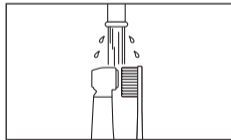

Fig. 12
- 1 Clean the external surfaces of the handpiece with a soft bristled toothbrush for 15 seconds or more. (Fig. 12)